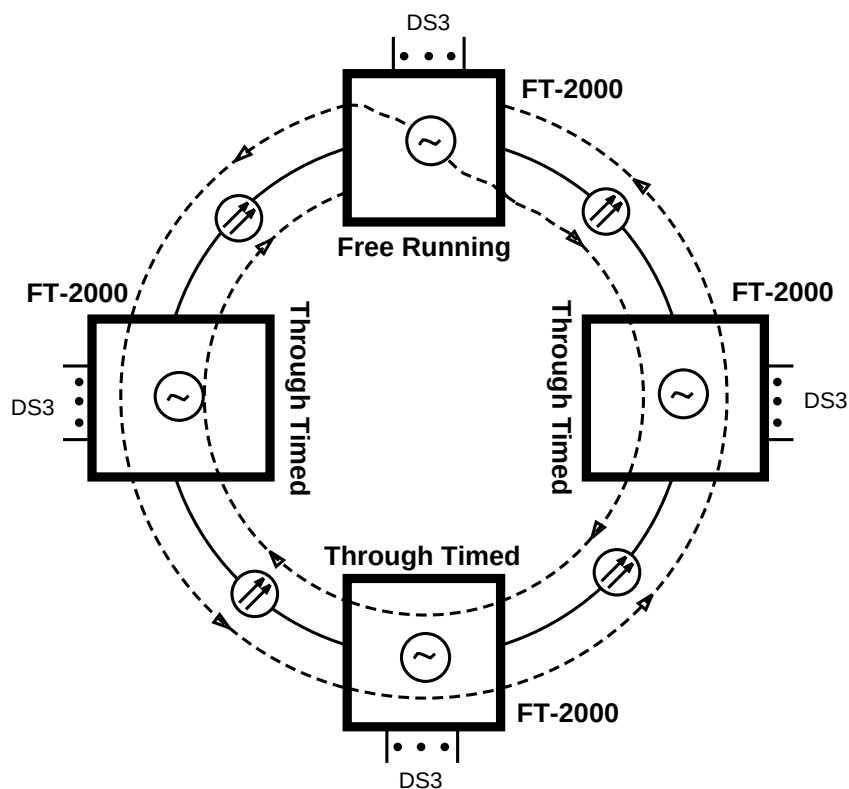

Figure 5-16. Example of a Ring Application with One Node Provisioned Free Running and All Other Nodes Provisioned Through Timed (Without Timing Drops)
- **One node provisioned free running; all other nodes provisioned through timed:** This configuration (Figure 5-16) is used when there are only asynchronous (DS3) low speed interfaces on every node in the ring. Only one node in the ring should be provisioned free running. This prevents cumulative pointer processing on transmission signals passing through a node.